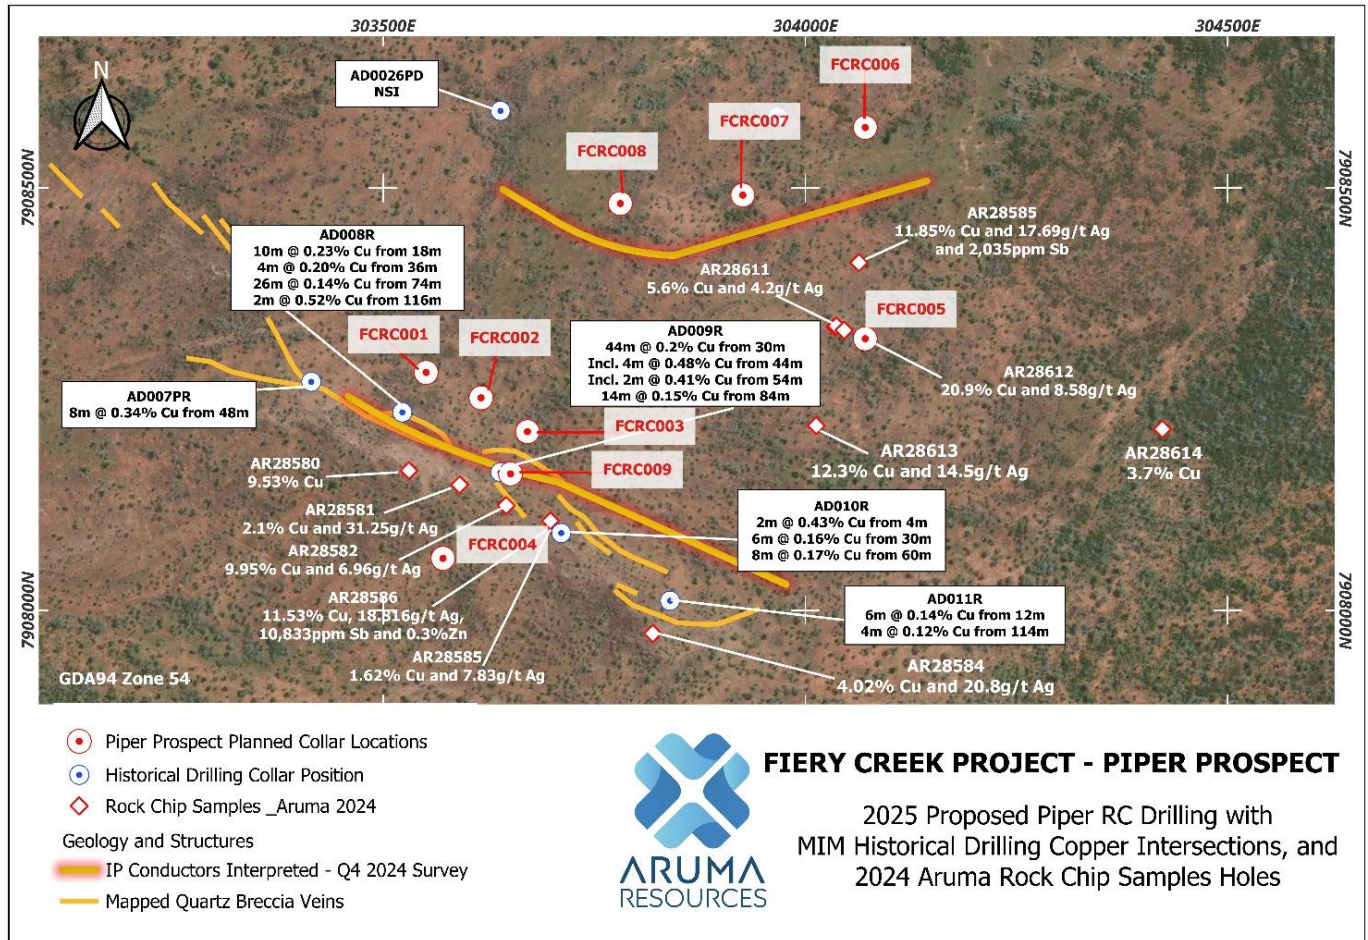

Figure 1: Planned RC drill hole locations for maiden drilling program at Fiery Creek Project.
The Fiery Creek Project is a core exploration focus for Aruma, and the Company will commence drilling at the priority Piper Prospect. Drilling is planned to consist of a 1,400m reverse circulation (RC) program for a total of approximately 9 holes (Figure 1).
Drill hole locations have been confirmed (Figure 1), and drilling is planned to commence in July on completion of heritage surveys and final landowner consent.